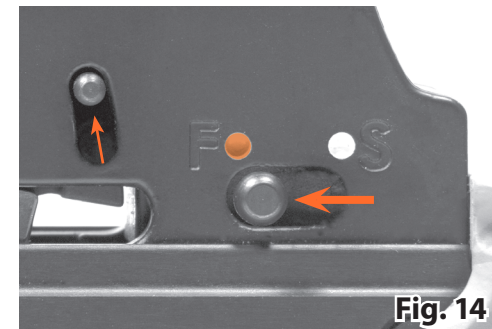

Fig. 14
1. Push and Hold the Cocking Preparation Switch up (Fig. 14).
2. While holding the Cocking Preparation Switch, slide the safety switch from the ON SAFE position to the FIRE position (Fig. 14).